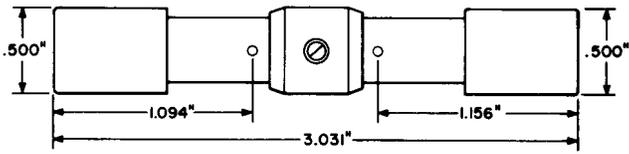

Fig. 4—206A Adapter
**2.04 206A:** The 206A adapter (Fig. 4) consists of a 358C plug on each end. This adapter is used for testing and fault-location work in coaxial cables of the L1, L3, and L4 Carrier Systems.